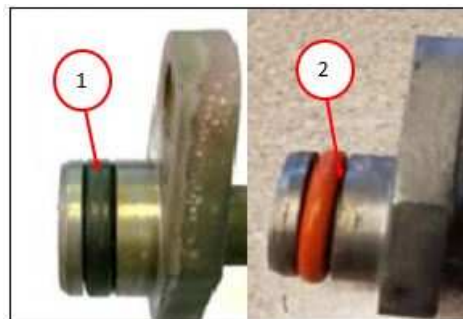

Fig. 2
2. Replace the O-ring attached to the end of the coolant hose (Fig. 2) with the new one listed in Parts Required.